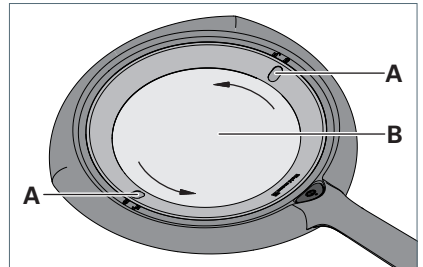

Fig. 5: Remove the lens.
- ▶ Turn the ring with the recesses **A** counterclockwise to the two unlocking symbols on the housing, see Fig. 5.